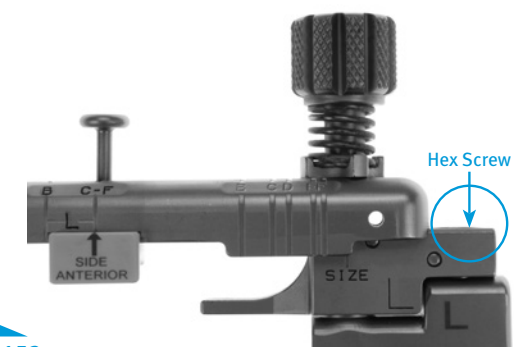

Fig. 152
- Adjust the base slider by loosening the thumb screw of the Condylar Trepine Guide so that the recessed hex screw is accessible for attachment of the Trepine Guide Bushing (Fig. 152).